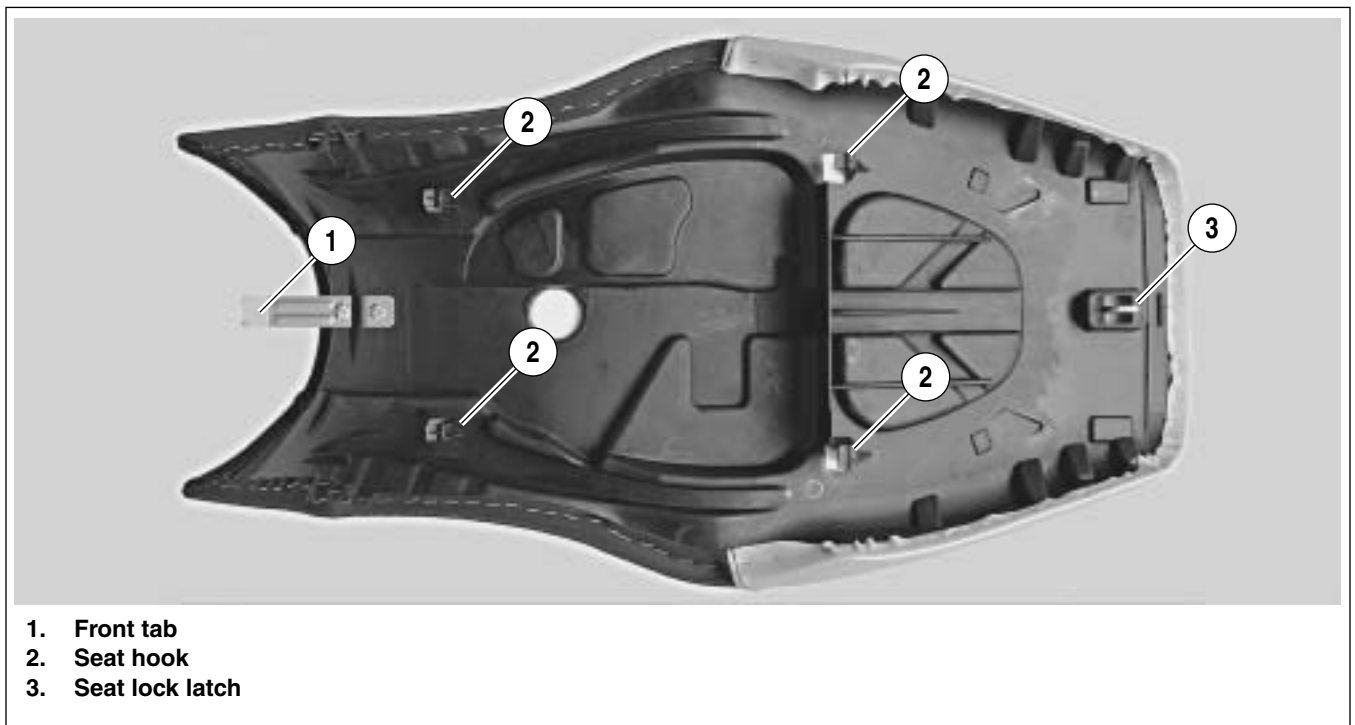

Figure 2-135. Seat Attachments
See Figure 2-135. The seat anchors in six places on the vehicle. The first is a front tab (1) which fits into a slot in the frame. Four seats hooks (2) slide onto the shouldered lugs located in the left and right forward tail sections. The last is the seat lock latch which fits into the slot on the seat latch.
1. See Figure 2-135. Position seat and slide forward to engage the front tab (1) with the slot in the frame and the four hooks (2) with the shouldered lugs on the tail sections.
3. Press down firmly on rear of seat to engage seat lock latch (3).